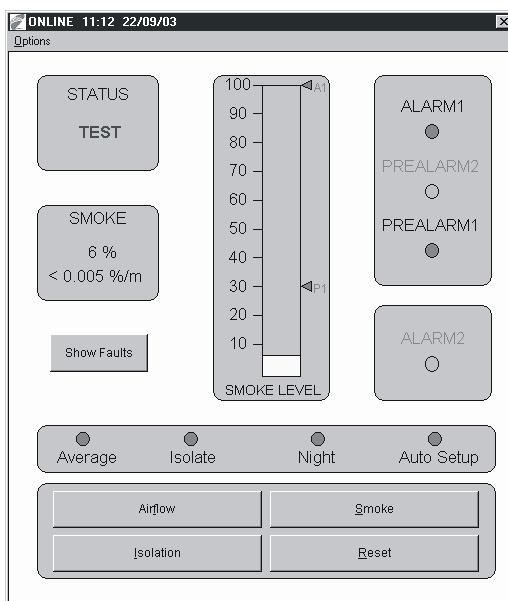

Figure 6-19. Sensitivity Test Window
2. At the successful completion of the test, a "Test Pass" message as shown in Figure 6-19 will appear in the Status box. Select **<OK>** to close the window.